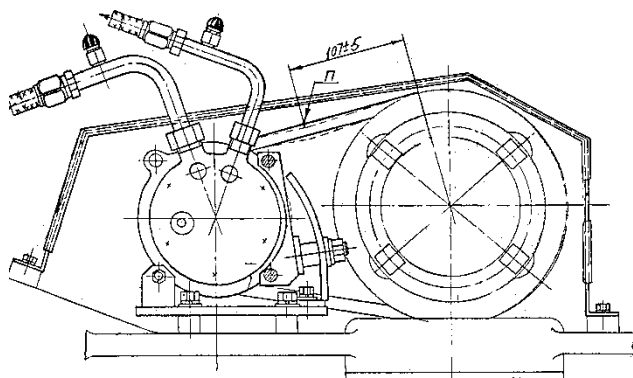

Fig. 48 Adjustment of the tension of the compressor drive belt
2. When performing M-1, M-2, M-3, check the tension of the compressor drive belt and, if necessary, make adjustments. When the force of 4 ± 0.2 kg is applied at point "P", belt deflection (Fig.48) shall be within 9...14 mm.